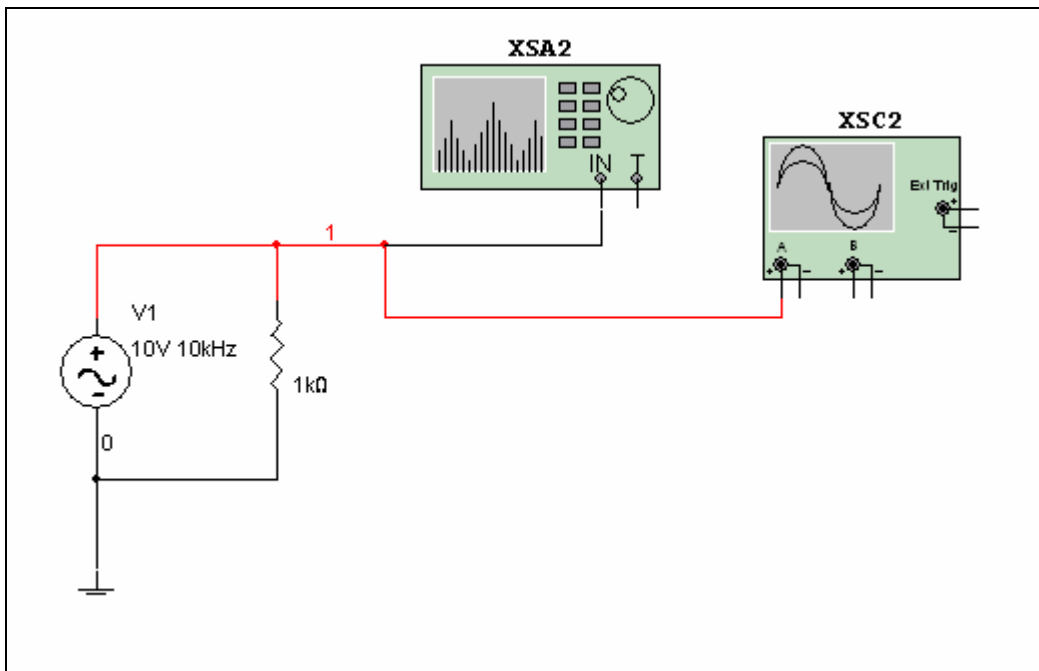

Figure 1-2
1. Connect the circuit illustrated in Figure 1-2.
1. Set the amplitude of the AC Voltage Source in Figure 1-2 to 1 V and the frequency to 10 kHz.